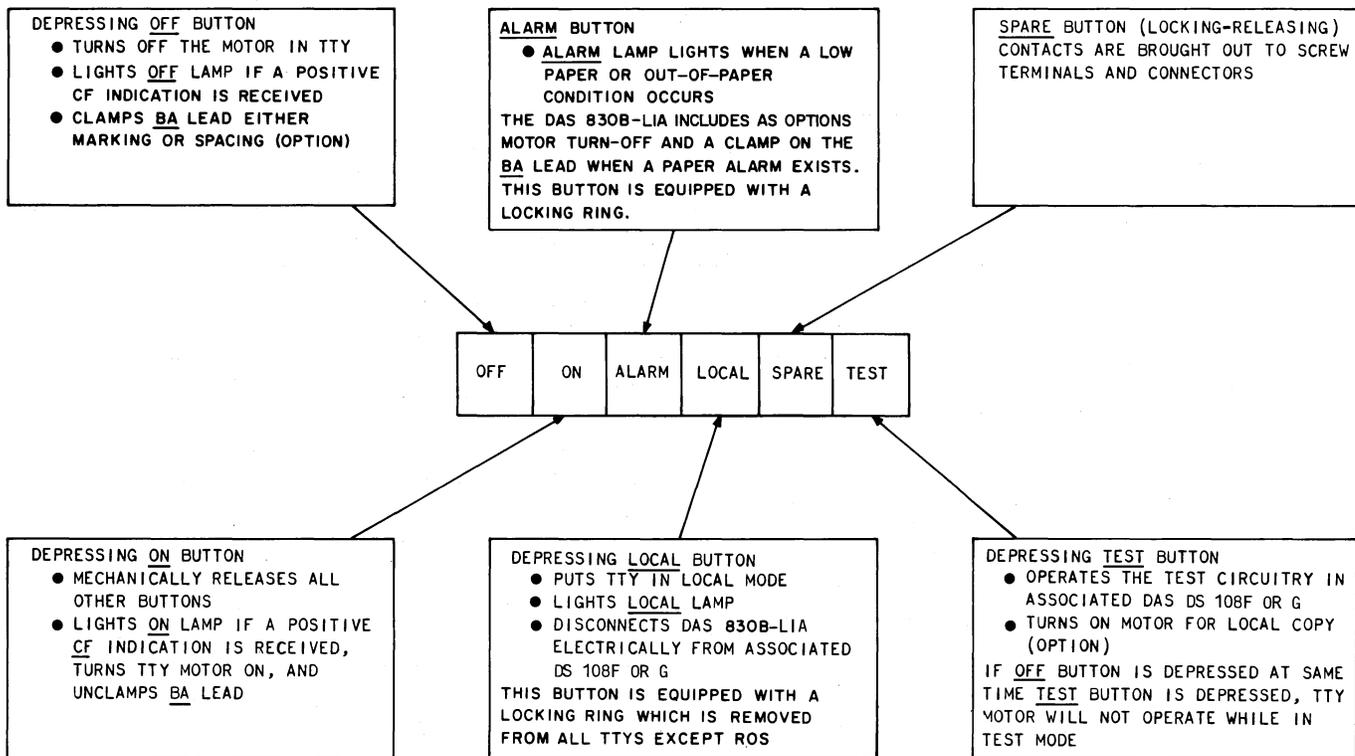

Fig. 12—DAS 830B-L1A—Key Designations and Functions
3.14 DAS 830B-L1A provides six buttons for controlling the operation of the station. The 6-button key and the functions provided by each button are shown in Fig. 12.